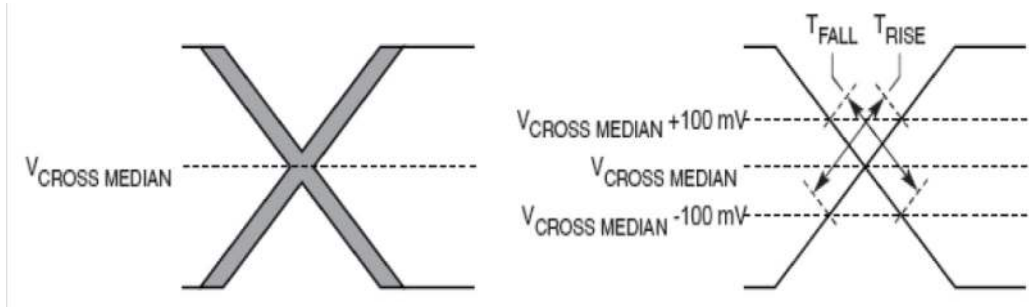

Figure 42. Single-ended measurement points for rise and fall time matching
- Matching applies to rising edge for SD_REF_CLK n and falling edge rate for $\overline{\text{SD_REF_CLK}}_n$. It is measured using a 200 mV window centered on the median cross point where SD_REF_CLK n rising meets $\overline{\text{SD_REF_CLK}}_n$ falling. The median cross point is used to calculate the voltage thresholds that the oscilloscope uses for the edge rate calculations. The rise edge rate of SD_REF_CLK n should be compared to the fall edge rate of $\overline{\text{SD_REF_CLK}}_n$, the maximum allowed difference should not exceed 20% of the slowest edge rate. See Figure 42.